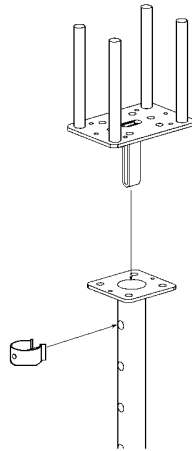

Fig. 3.1 Attaching Fork Head to Post Shore
1. Secure the 2-Way Fork Head in the top of post shores (Fig. 3.1).